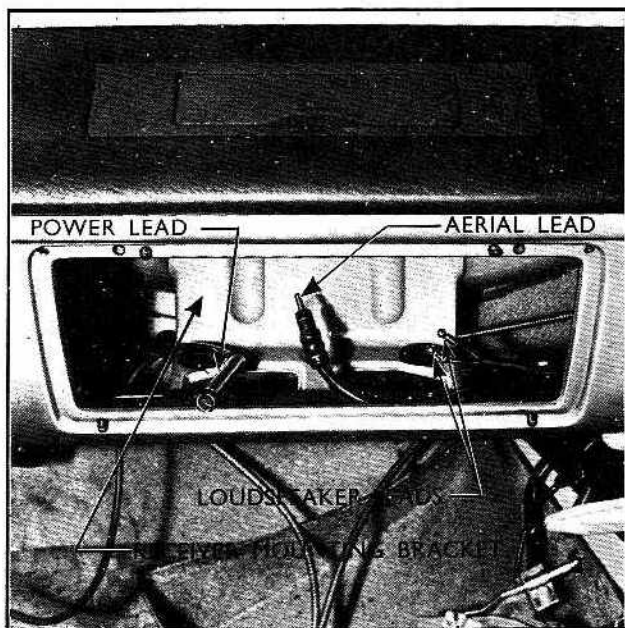

Fig. 589
- 6 Route the aerial lead from the aerial bollard beneath the glove box and inside the lower edge of the fascia panel to the receiver aperture at the centre (see Fig. 589).